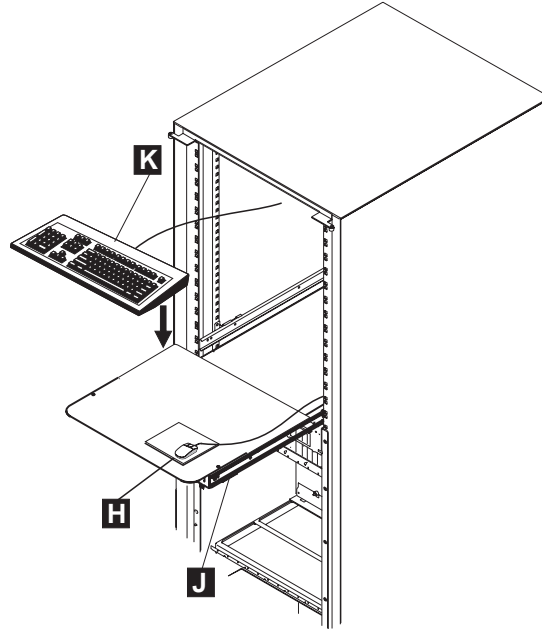

Figure 1-4. Keyboard Installation in 37U Rack
1. ____ Unpack the keyboard and the mouse, open the service drawer **J**, and install the keyboard **K** in the drawer as shown in Figure 1-4. Put the mouse **H** on the plate located in front of the keyboard.